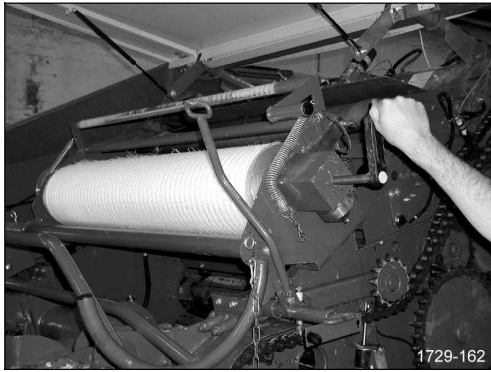

Figure 44
- (Figure 44) Pull out handle of the crank handle. Crank tensioning spindle with crank handle into the sleeve of the net roll.